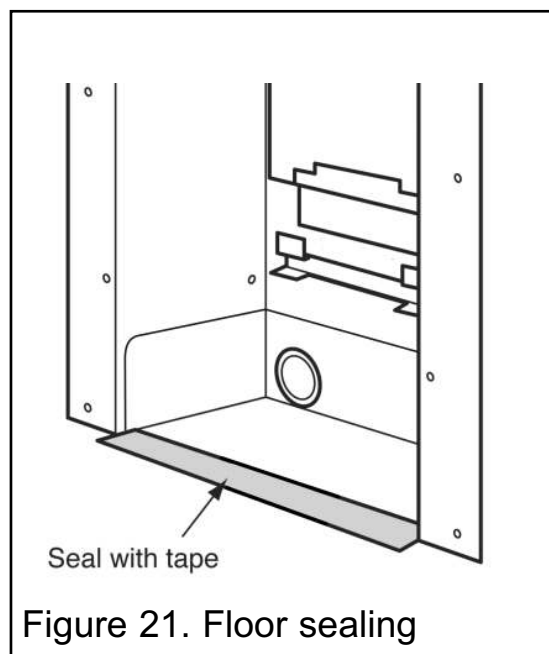

Figure 21. Floor sealing
4. Detach the burner unit from the convection box by removing two screws (See figure 21).